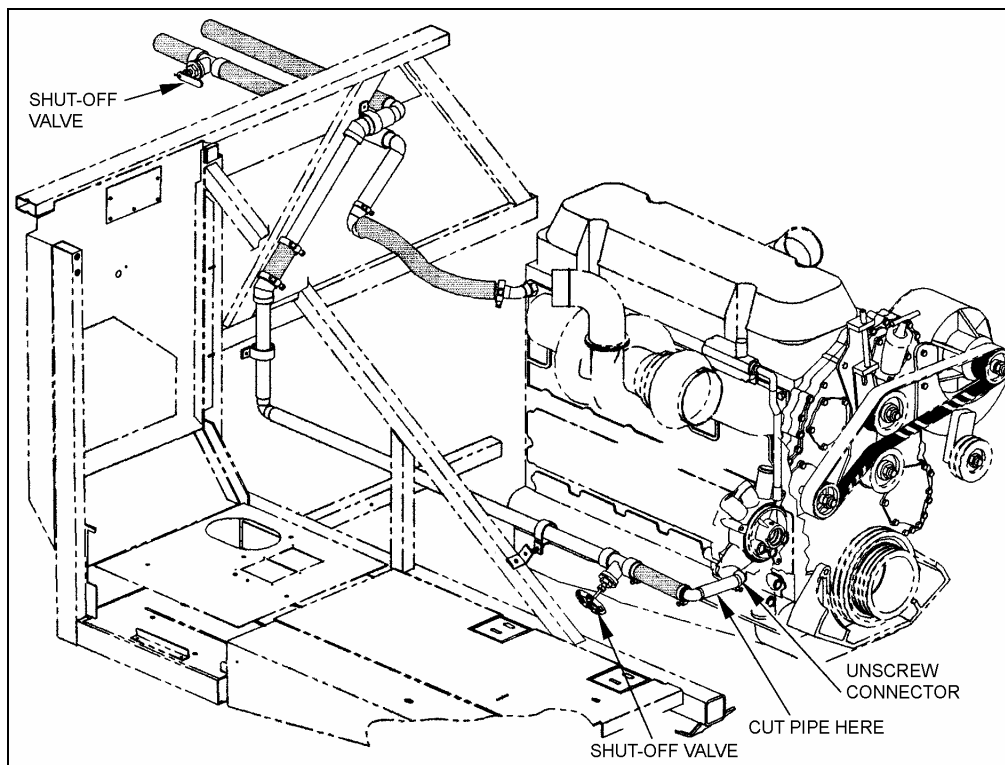

FIGURE 1: LOCATION OF SHUT-OFF VALVES ON H3-45 VIP
2. Close both heater line shut-off valves (Refer to figure 1 or 2).
5. Cut copper piping (Refer to figure 1 or 2).